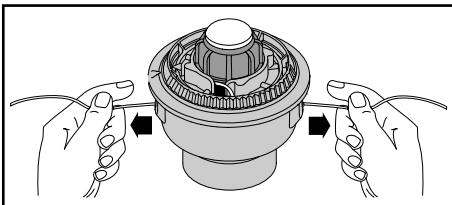

Fig. 18
7. If winding the line becomes difficult or the line jams, pull the ends of the line away from the spool and continue winding the inner reel counterclockwise (Fig. 18).
Pull the ends of the line firmly away from the spool to release the inner reel (Fig. 18). If this procedure does not release the inner reel, follow the "Cleaning the SpeedSpool" instructions below.